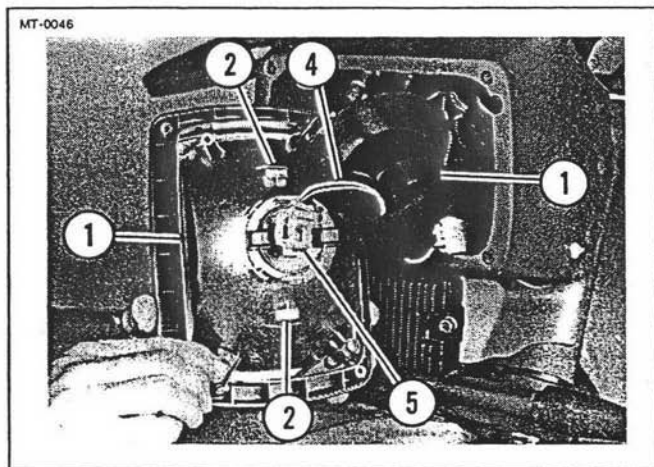

Figure 5-12. Removing Boot
3. See Figure 5-12. Unlatch boot (1) from tabs (2) on headlamp surround (3). Slide boot back along wiring harness (4) far enough to gain access to electrical connector (5). Disconnect connector from terminals of bulb.